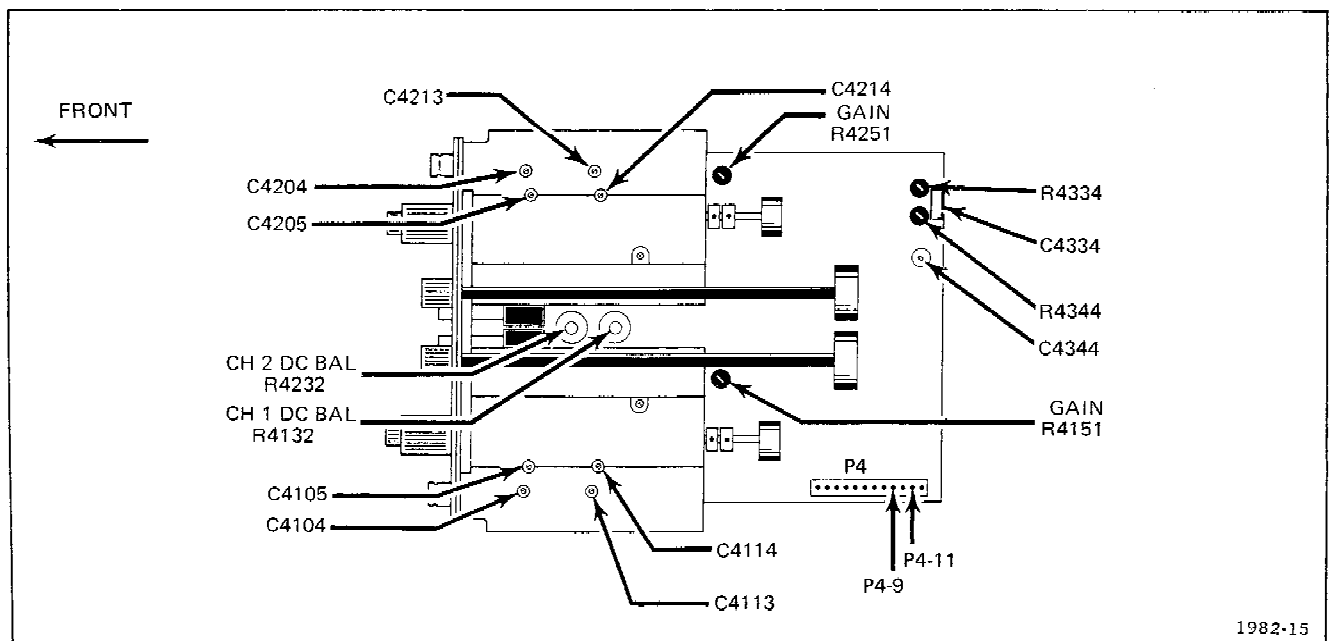
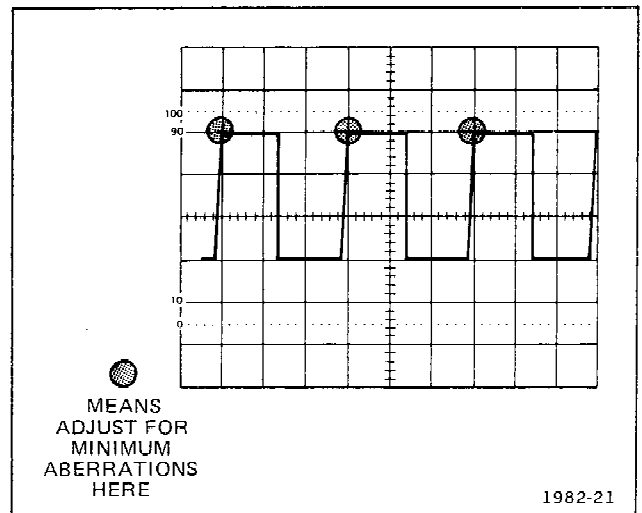

Fig. 4-4. Vertical amplifier adjustment locations (bottom view of T912).
Fig. 4-6. Display of correct (idealized) attenuator compensation.
a. ADJUST—CH 1 DC BAL, R4132 (see Fig. 4-4), for no trace shift while switching CH 1 VOLTS/DIV control between 2 mV and 10 mV.
c. ADJUST—CH 2 DC BAL, R4232 (see Fig. 4-4), for no trace shift while switching CH 2 VOLTS/DIV control between 2 mV and 10 mV.
c. Connect digital voltmeter between P4-9 and P4-11 (see Fig. 4-4). Select range on meter for at least 500 mV reading.
c. ADJUST—Gain, R4151 (see Fig. 4-4), for 4-division display.
e. ADJUST—Gain, R4251 (see Fig. 4-4), for 4-division display.
e. ADJUST—R4334, C4334, R4344, C4344 (see Fig. 4-4), and C133 (see Fig. 4-2), for best front corner of waveform using low capacitance screwdriver.
c. ADJUST—C4114 (see Fig. 4-4) for best square front corner (see Fig. 4-6 for example).
e. ADJUST—C4105 (see Fig. 4-4) for best square front corner (see Fig. 4-6 for example). Disconnect test equipment.
- e. ADJUST—C4205 (see Fig. 4-4) for best square front corner (see Fig. 4-6 for example). Disconnect test equipment.
- c. ADJUST—C4214 (see Fig. 4-4) for best square front corner (see Fig. 4-6 for example).